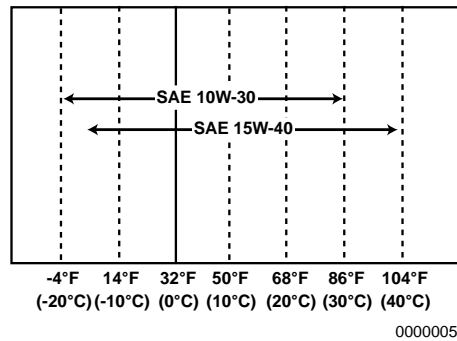

Figure 5
3. **Select the oil viscosity based on the ambient temperature where the engine is being operated. See the *SAE Service Grade Viscosity Chart (Figure 5)*.**
Select the appropriate engine oil viscosity based on the ambient temperature shown in the SAE Service Grade Viscosity Chart in Figure 5.